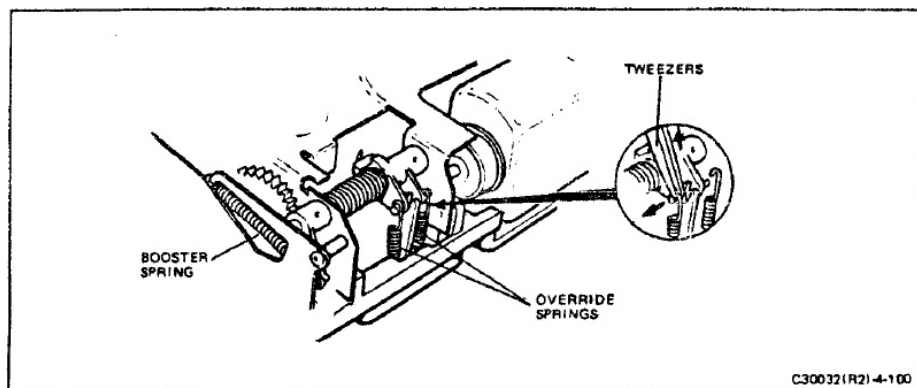

FIGURE 4-100 REMOVING OVERRIDE SPRINGS
8. Refer to Figure 4-100. Use Special Tool #11680 or tweezers and remove the two override springs.
- Reconnect the two override springs (Figure 4-100).